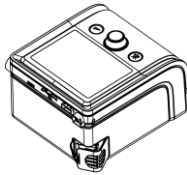

Fig. 11-2
- (2) Install the filter cap containing the air filter to the main device, as shown in Fig. 11-2.